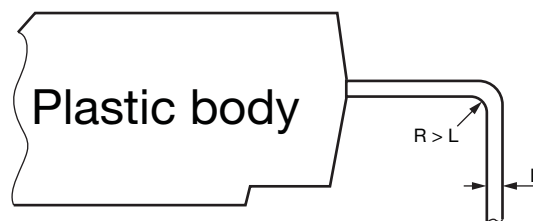

Fig. 5
4. To avoid breaking / fractures of the leads, never bend the leads more than 90° and L with a radius smaller than the terminal thickness (Fig. 5)